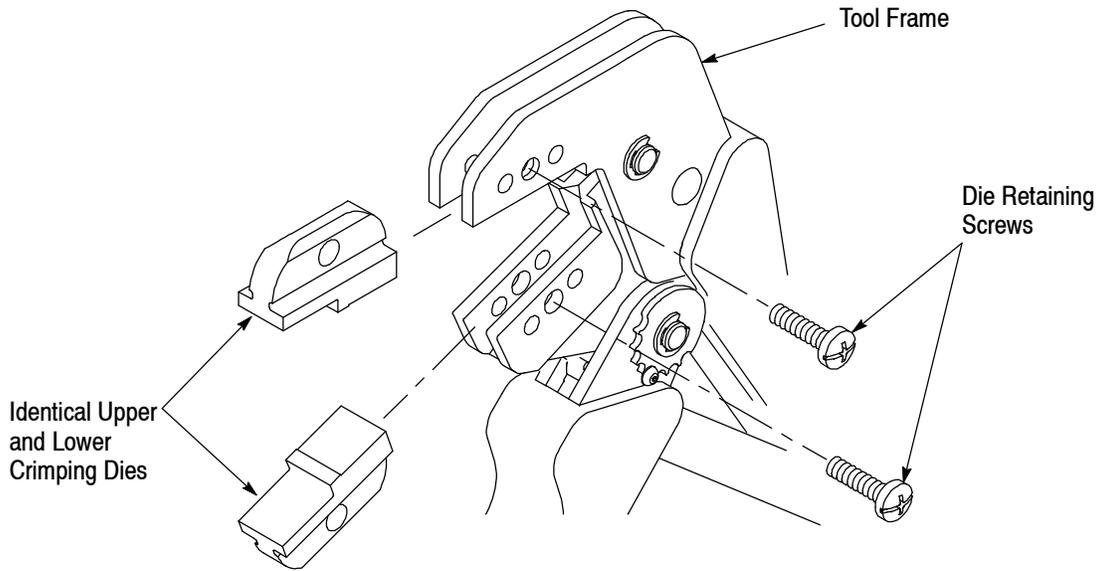

Figure 2
**3. INSTALLATION AND REMOVAL OF DIE ASSEMBLY (Figure 2)**